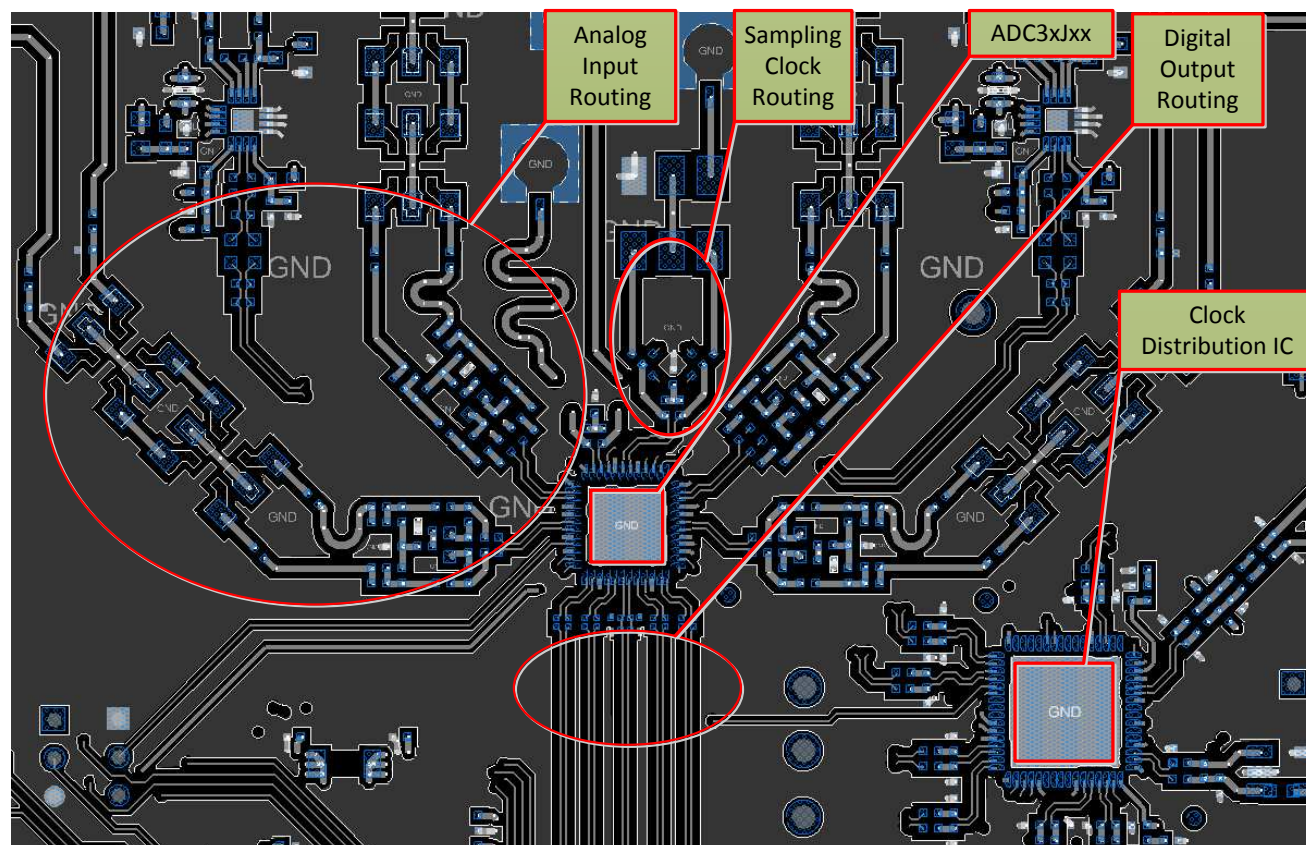

Figure 208. Typical Layout of the ADC34J4x Board
The ADC34J4x EVM layout can be used as a reference layout to obtain the best performance. A layout diagram of the EVM top layer is provided in Figure 208. Some important points to remember while laying out the board are:
1. Analog inputs are located on opposite sides of the device pin out to ensure minimum crosstalk on the package level. To minimize crosstalk onboard, the analog input traces exit the pin out in opposite directions, as shown in the reference layout of Figure 208 as much as possible.
2. In the device pin out, the sampling clock is located on a side perpendicular to the analog inputs in order to minimize coupling between them. This configuration is also maintained on the reference layout of Figure 208 as much as possible.